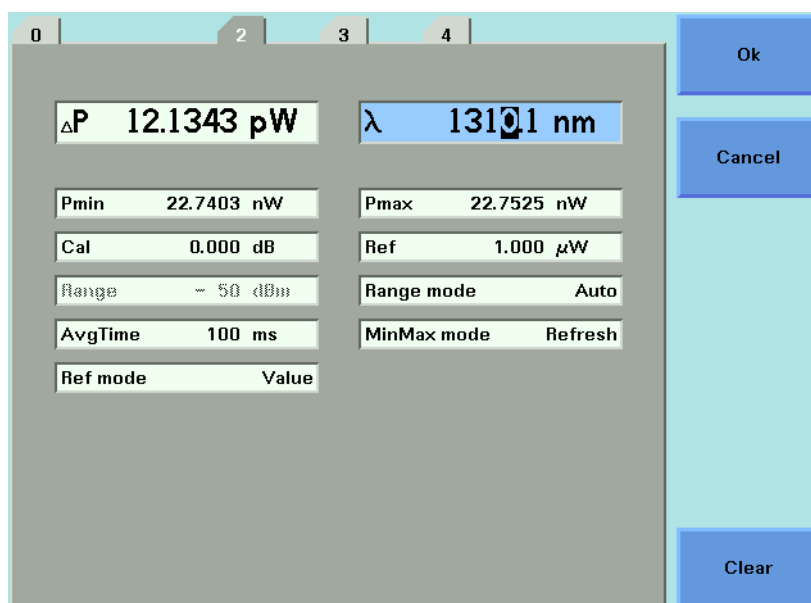

Figure 23 The First Digit Before the Decimal Point is Highlighted First
- 1 Press [Edit]. The first digit before the decimal point will be highlighted first, as shown in Figure 23 .